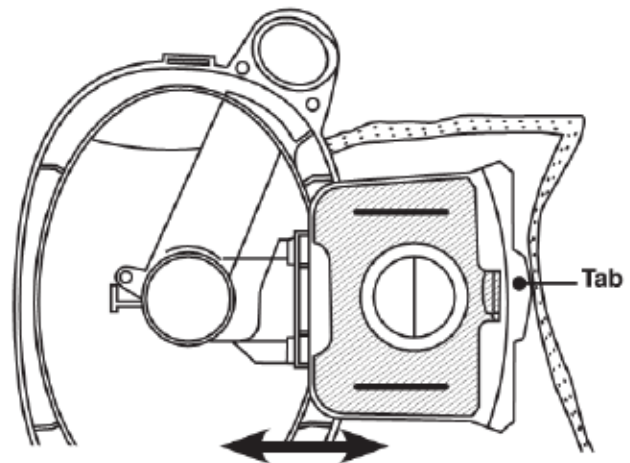

Fig 2
3. Pull the tab on the patented HEPA dust bag holder out slightly and flip upwards. (Fig 2)
4. While holding the HEPA dust bag in your hand, slide it firmly between the slots in the bag holder. (Fig 2)